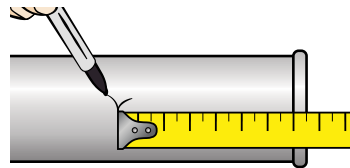
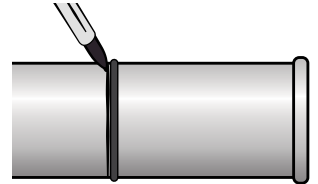

FIG. 25b
FIG. 25c
- Mark the pipe approximately 4" shorter than the measurement from Step 25a. [FIG. 25b]. Use the Sleeve's provided O-Ring to mark the cut. [FIG. 25c].